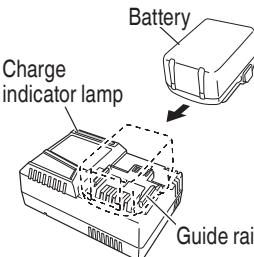

Fig. 6
- Insert the battery to the battery charger. Firmly Insert the battery into the battery charger as shown in Fig. 6.